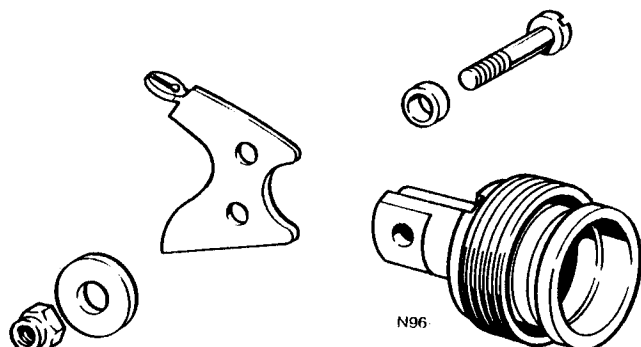

Fig. D7 Order of assembly of clutch withdrawal lever
- 11 Assemble the withdrawal lever, roller, bush and pivot screw and secure the lock nut. Assembly should be in accordance with *Fig. D7*.